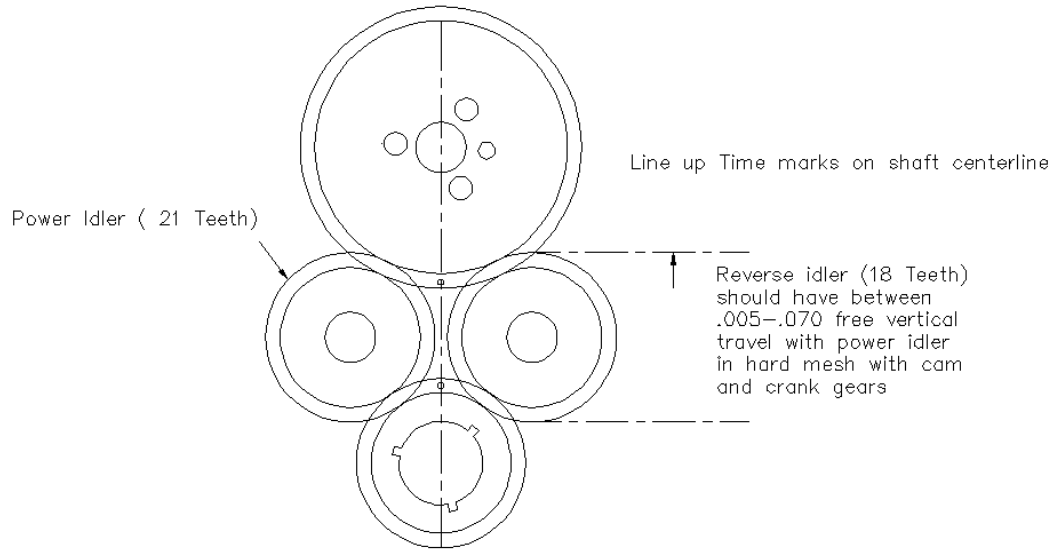

Figure 1
3. The engine is timed with the timing marks facing one another just as you would with a chain and sprocket drive.( Refer to Figure 1)
4. Align the timing marks as shown in Figure 1.